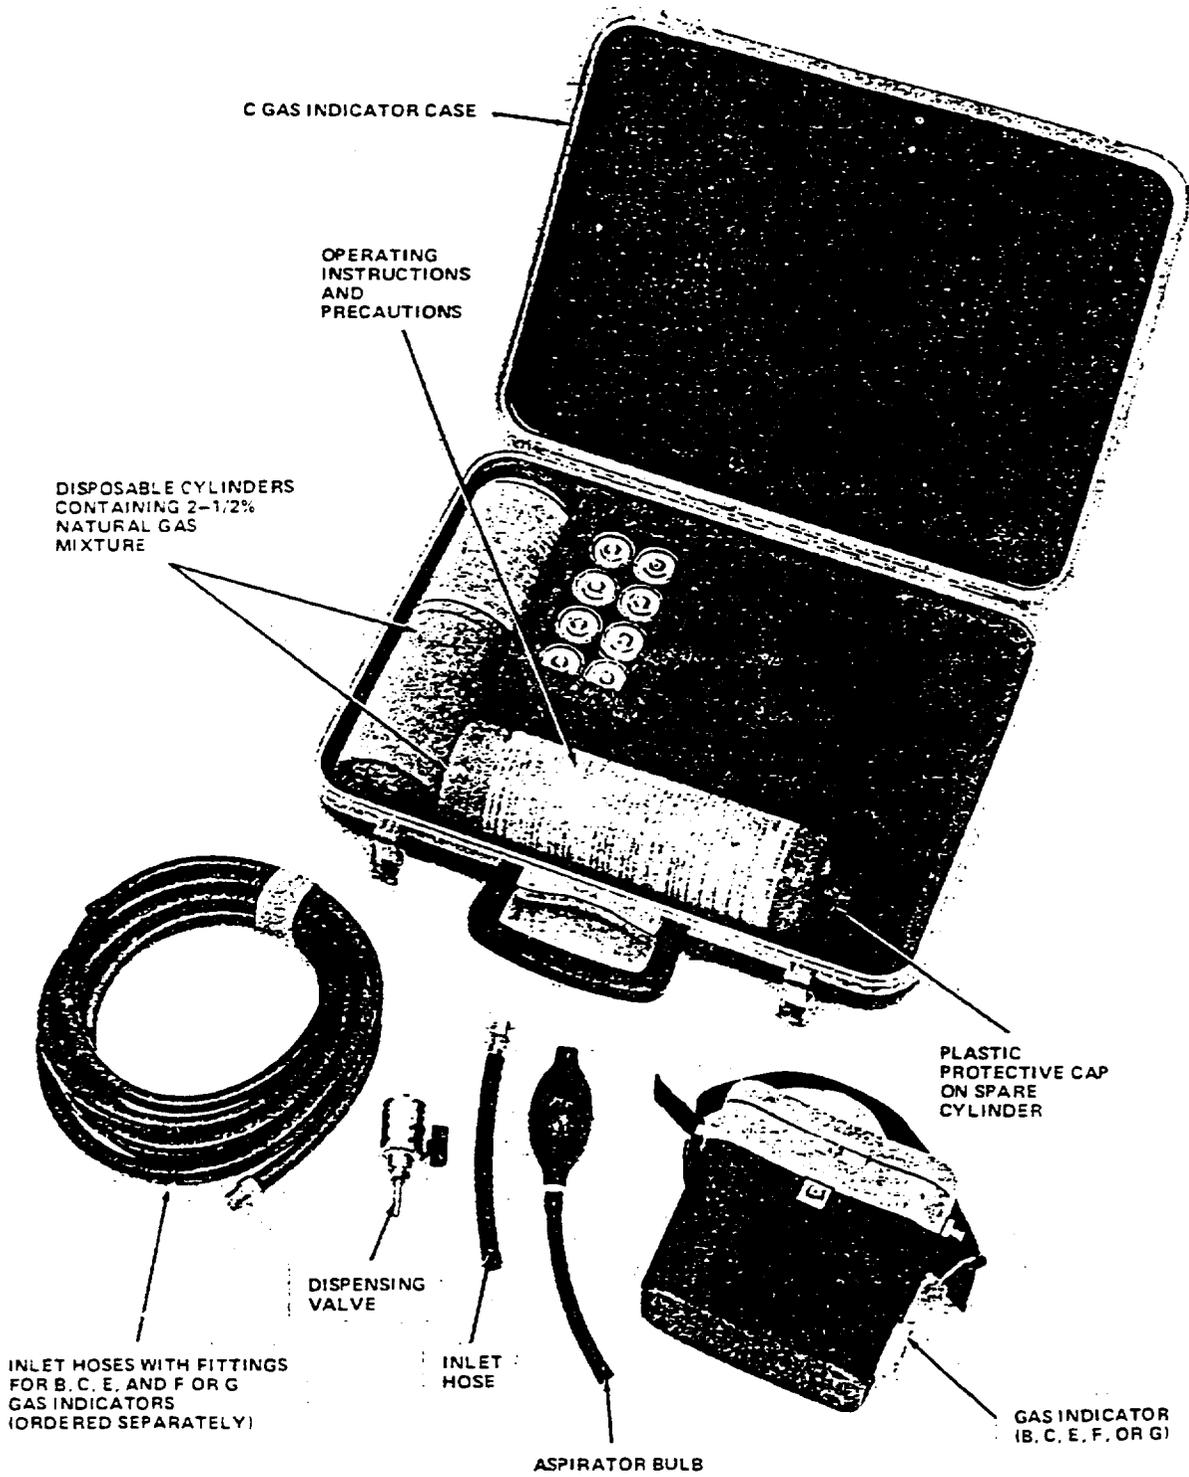

Fig. 1-C Gas Test Kit
2.01 The C gas test kit (Fig. 1) consists of the following components:
- (a) Two (2) disposable pressurized gas cylinders containing a mixture of 2-1/2 percent natural gas in air at 250 psi.
- (c) Four (4) inlet hoses for connecting the gas cylinder to the gas indicator; one hose each for B, C, and E indicators and one which may be used for both the F and G gas indicators. These hoses must be ordered separately as required.